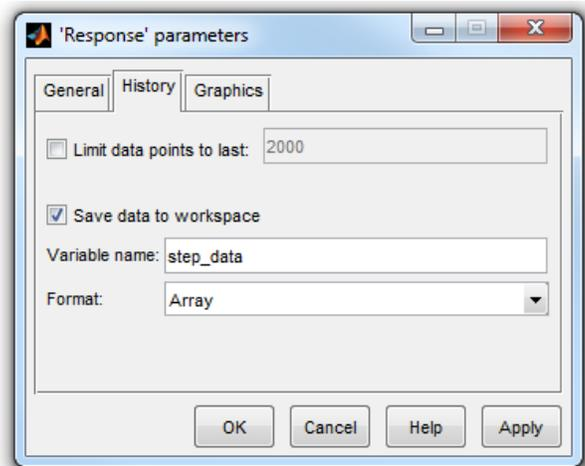

Figure 5.3: Scope parameters window
3. Open the **Response** scope. In the scope window, click on *Parameters* icon on the toolbar. The scope parameters window will open. Go to the *History* tab and check mark *Save data to workspace*. Set the *Variable name* to **step_data** and the *Format* to **Array** as shown in Figure 5.3. This will store the data shown in the scope in an array called **scope_data** on the MATLAB Workspace.